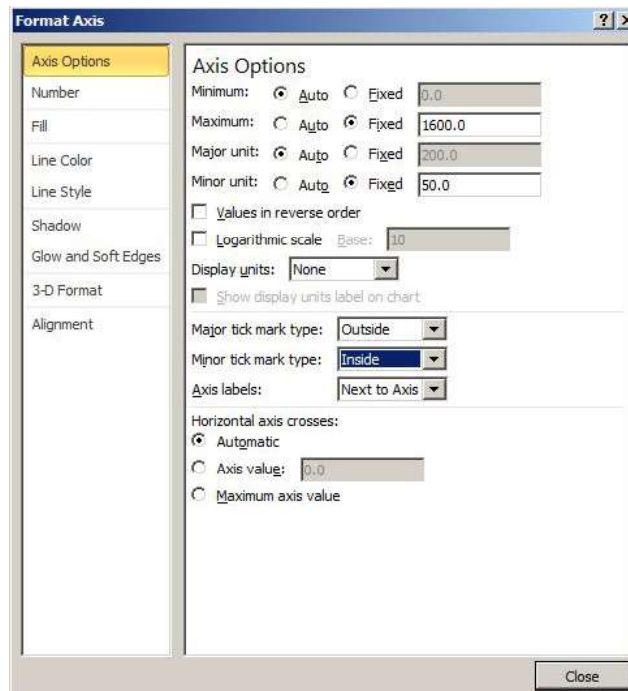

Figure 7.10: The Format Axis Menu. credit: author
7. There are several different menu's for changing the major chart options, formatting the axis, formatting data series and many other options. You can access these options by left-clicking on the desired feature and then right-clicking to bring up an options menu for that feature. For example, left-clicking on labels for the y-axis will bring up the format axis menu which allows you to set minimum and maximum values, spacings, tick marks and many other options. (See Figure 7.10.)